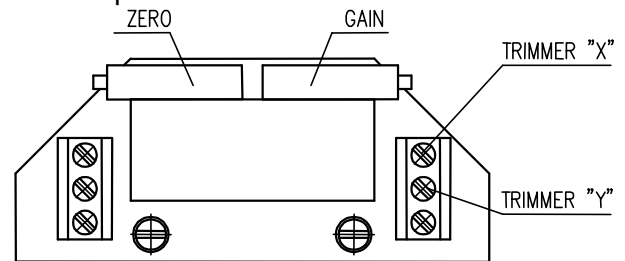

Fig. 6
4.4.2 EPV – 3-wire version (Fig. 6,6a)
- Adjust the resistive transmitter according to the previous chapter. The resistance is to be metered on the terminals X-Y (Fig. 6,6a). The used transmitter resistance is 2000Ω or 100 Ω.
- Turn the adjusting trimmer ZERO (Fig. 6,6a) to adjust the output current signal rate measured on the terminals 81-82 to 0 mA or 4mA.
- Turn the adjusting trimmer GAIN (Fig. 6,6a) to adjust the output current signal rate measured on the terminals 81-82 to 20mA or 5 mA..